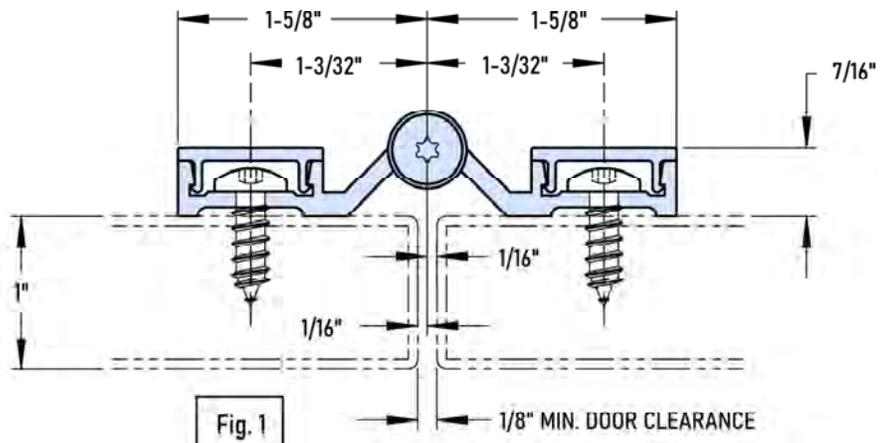
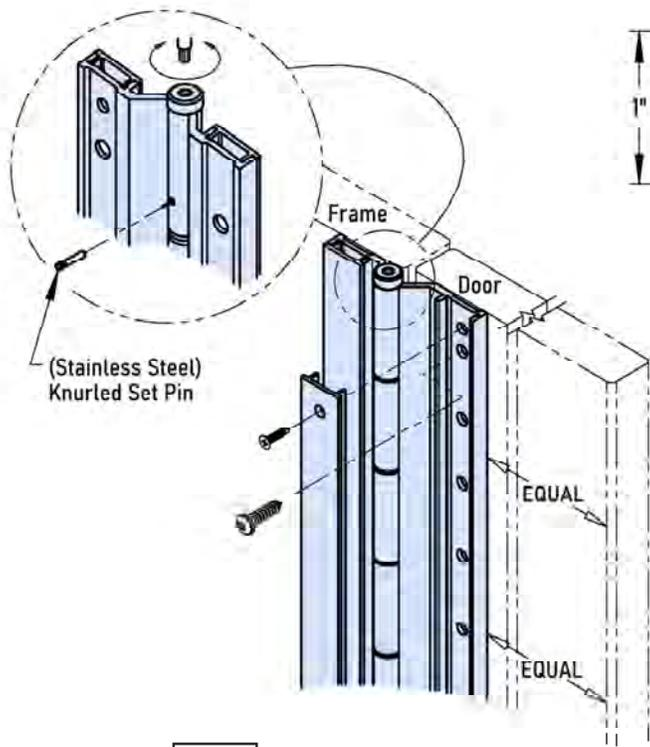

Fig. 1
Fig. 2
- A. Place the hinge on partition door as shown (Fig. 1). Be sure the hinge is properly aligned with the top of the door. Measure from the edge of the door to hinge at both the top and bottom to ensure that the hinge is located squarely on the door (Fig. 2).
- D. Install the three cover clips in each leaf by passing a screw through the clip and hinge leaf and into the door (Fig. 2). We recommend that the clips be positioned at the top, center and bottom holes.